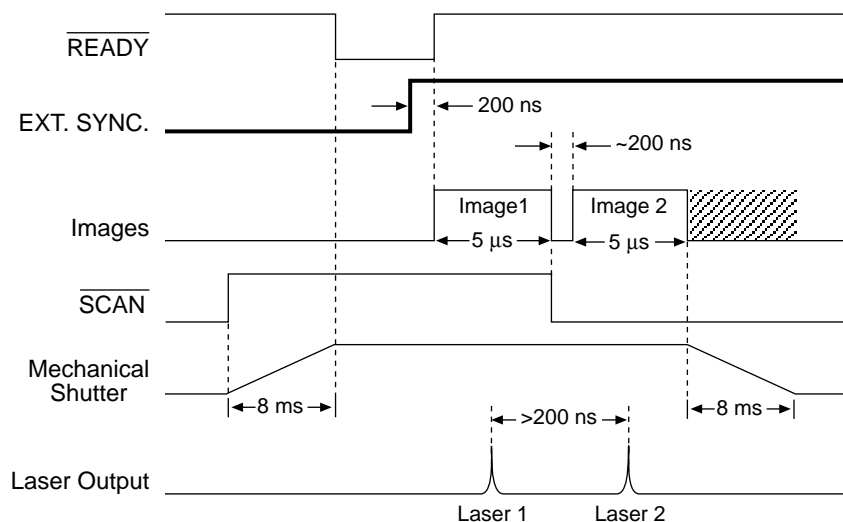

Figure 51. Timing diagram for typical IEC measurement
In this mode, a single external trigger applied to **Ext Sync** initiates two successive image acquisitions of equal duration. The Exposure Time is set in software (Experiment Setup **Main** tab page and elsewhere) the same as in a standard system and can be as short as  $1\ \mu\text{s}$ . On initiating the acquisition (**ACQ** button or **Acquire** on the Acquisition menu), the initialization routine runs and the shutter opens. When the shutter is completely open, **READY** drops low and remains in that state until an external trigger is applied to **Ext Sync**. Continuous cleaning takes place until the trigger is applied. When the trigger is sensed, the first exposure begins and the first image is captured (shifted under the masked columns and held there). The exposure for capture of the second image begins. This sequence is illustrated in Figure 51.
**Example 1:** An external trigger initiates the imaging process. **READY** goes low when the system is ready. Once **READY** is low, an external trigger applied to **Ext Sync** initiates the double image capture. Figure 51 illustrates the timing for a typical IEC experiment with an exposure time of  $5\ \mu\text{s}$ .